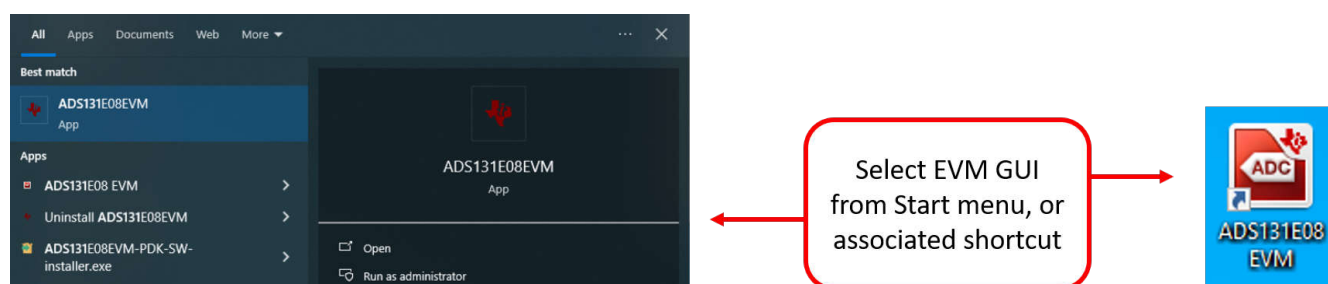

Figure 4-2. Launch the ADS131E08EVM GUI Software
3. Start the software GUI by selecting from the start menu or associated shortcut as shown in Figure 4-2. Notice that the LEDs on the PHI blink slowly when the FPGA firmware is loaded on the PHI. Loading takes a few seconds.